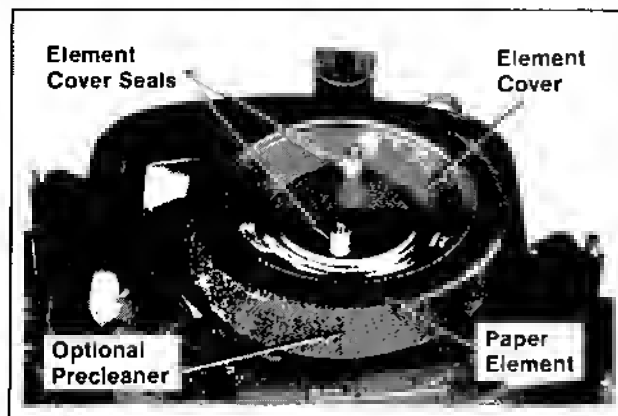

Figure 9-4. Removing Air Cleaner Element.
2. Remove the element cover seals, element cover, and paper element (with precleaner, if so equipped). Refer to Figure 9-4.